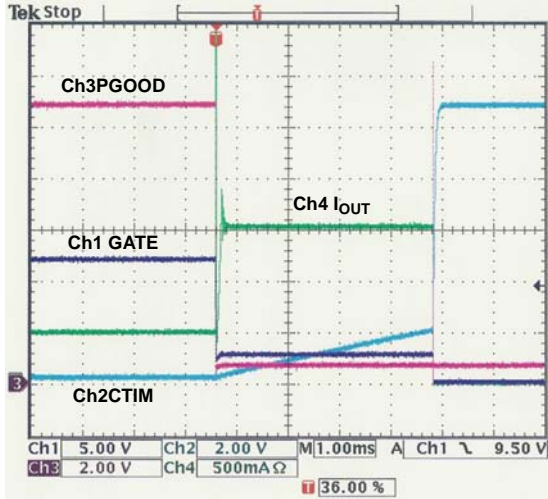

FIGURE 5A. RESPONSE TO OC DURING OPERATION
charging. The nominal time-out period is $CTIM \times 93k\Omega$. An overcurrent (OC) event occurs when the current through the sense resistor exceeds the user programmed OC threshold (see data sheet). The controller enters current regulation (CR) and capacitor CTIM begins charging. The nominal time-out period is $CTIM \times 93k\Omega$. (see Figure 5A). A transient event from 500mA to 1A occurs. PGOOD is pulled low due to a temporary undervoltage condition occurring on $+5V_{OUT}$, but CTIM stays low as a true OC event never occurs (See Figure 5B).